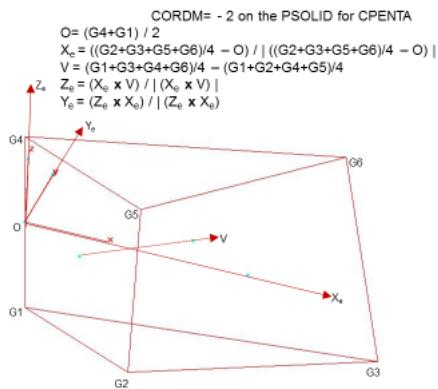

Figure 9-48 PSOLID for CPENTA
10. The internal coordinate system of the element is used internally and is based on eigenvalue techniques to insure non bias in the element formulation. For stress/strain output this internal coordinate system (CORDM=-1 on PSOLID entry) is hard to visualize. Thus a CORDM=-2 on the PSOLID is available as shown in Figure 9-48.